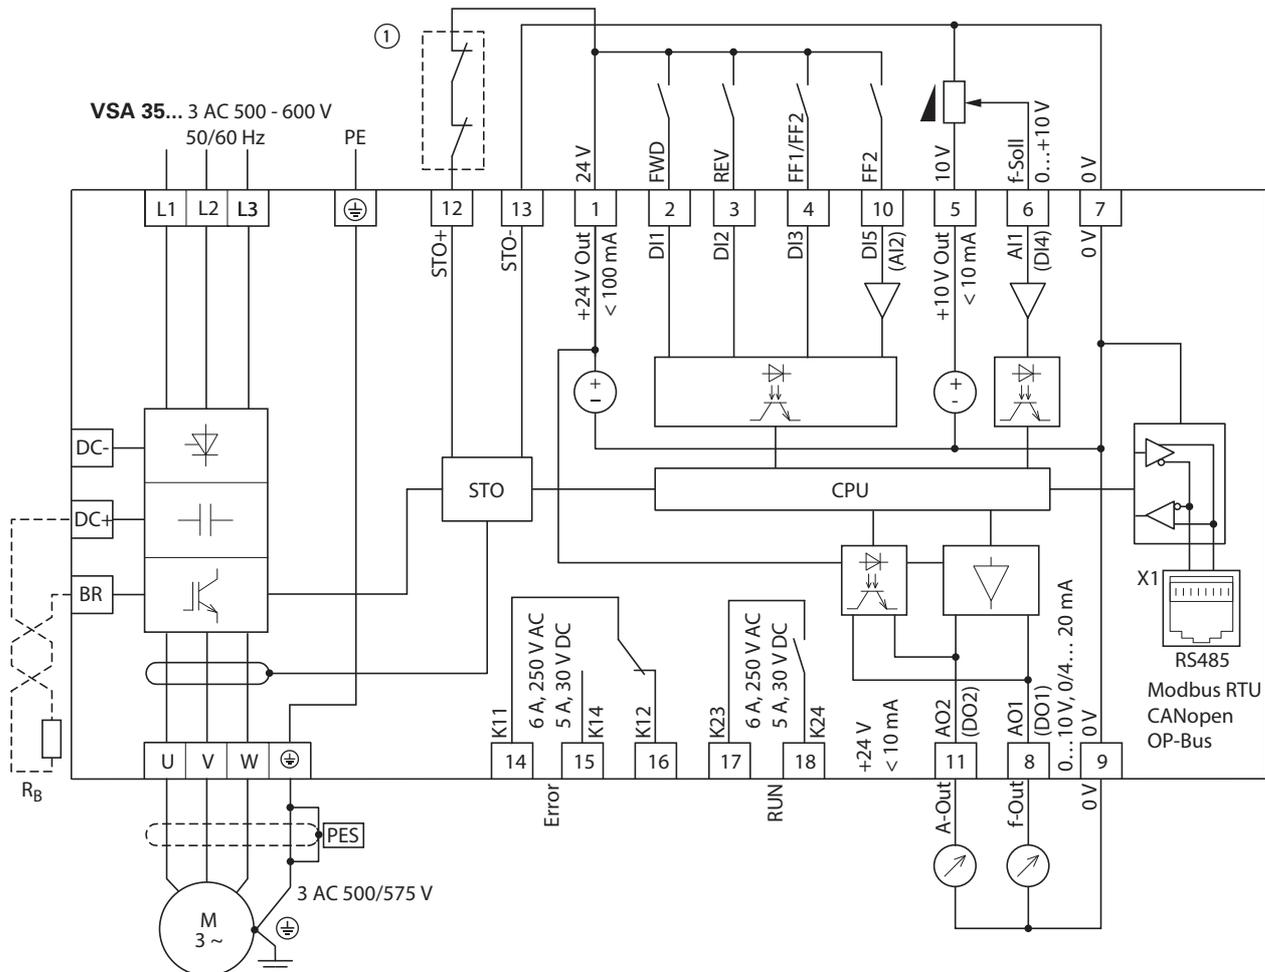

Figure 87: VSA 35... block diagram in frame size FS4
① Direct enable signal for STO function or relay: Safe Torque Off (STO), SIL 2 (EN 61800-5-2) as in → Figure 87, page 121.